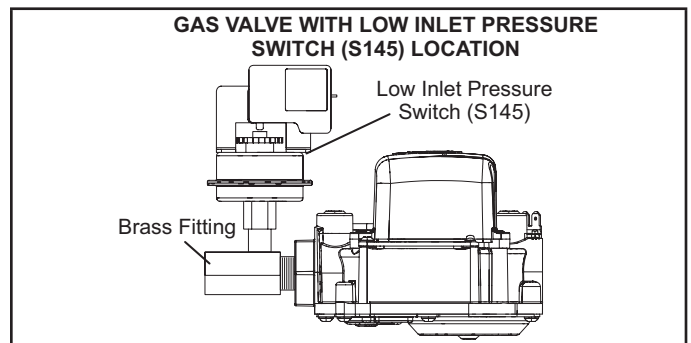

FIGURE 3
- 1 - Connect test gauge to manifold pressure tap (figure 3) on gas valve.